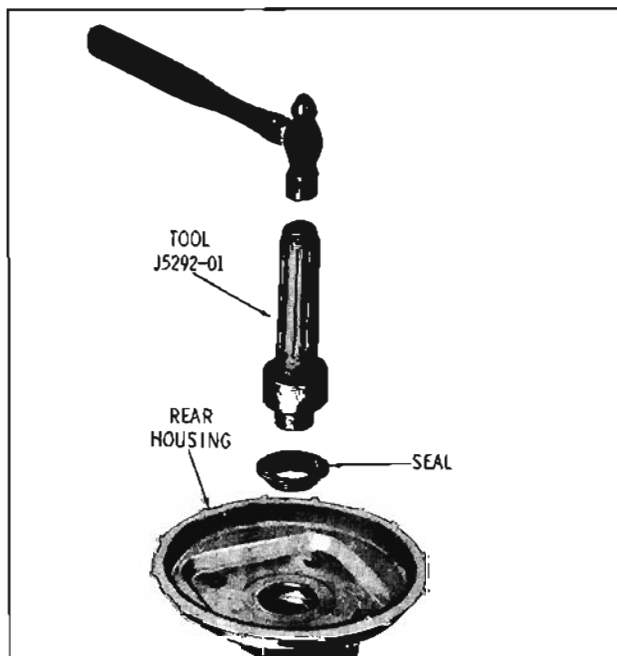

Fig. 11-61 Installing Rear Housing Seal
1. Coat a new rear housing seal with lubricant and install as shown in Fig. 11-61.